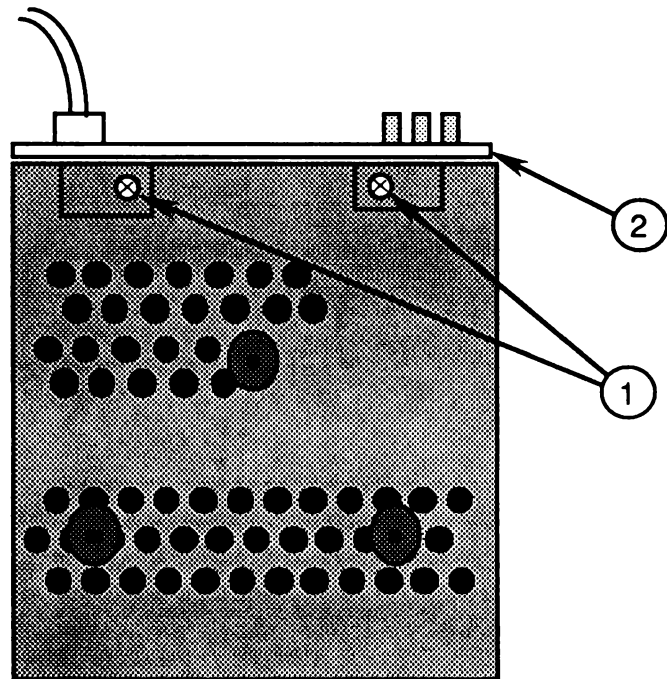

FIGURE 20
- d) Turn the main logic PCB over, and remove the two screws (Figure 20, #1) from the bottom of the metal frame.
- e) Pull the rear panel (Figure 20, #2), along with the AC cord and power supply board, away from the monitor.